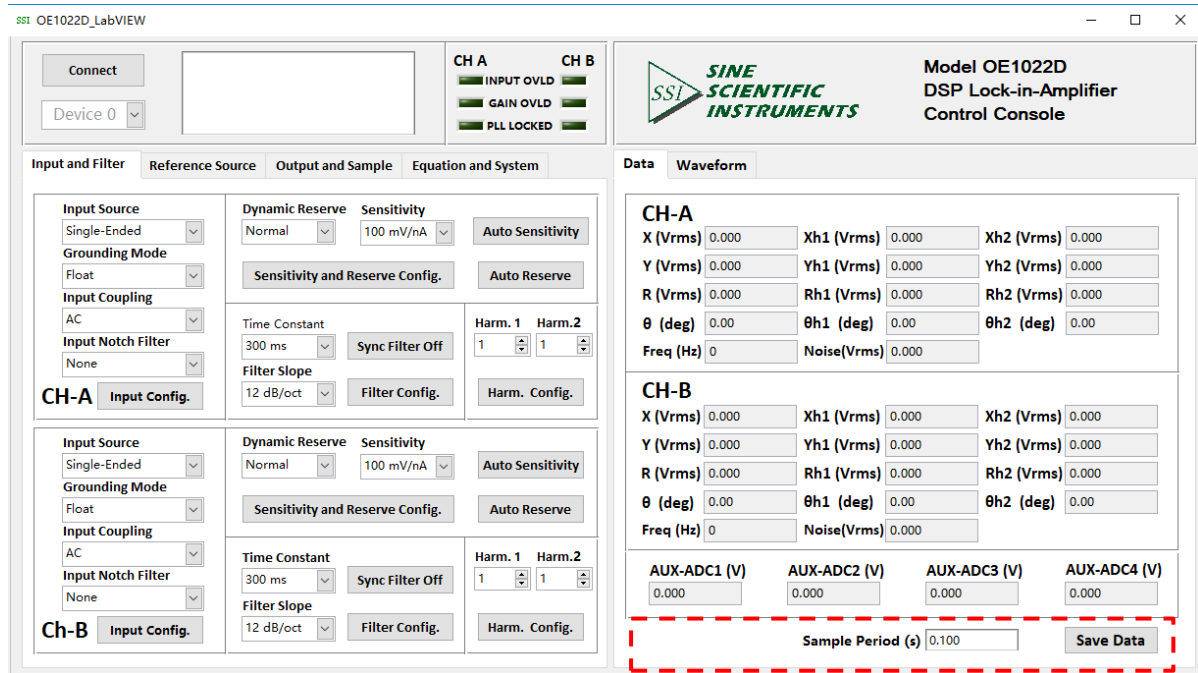

Fig.73 The Configuration Area of Data Storage
2. When the software is executing, click the button **Save Data** in the red box in Fig.73. After clicking this button and it displays **Saving...**. The software is saving the current collected data.
other options as initial state for now as shown in Fig.73. Click the button  to finish configurations.